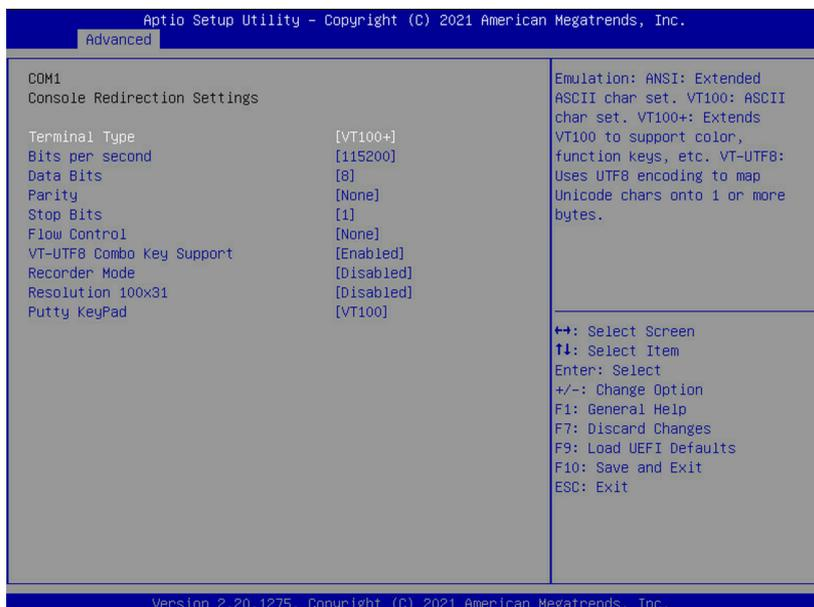

Figure 27 : Setting Terminal Type
**Console Redirection Settings -> Terminal Type -> VT100+** (Figure 27)